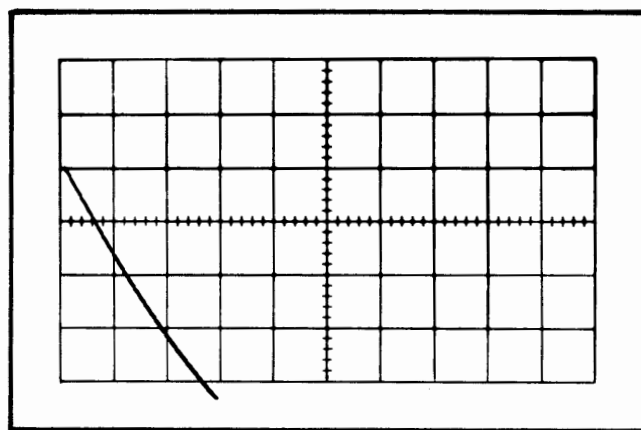

Fig. 5-39. Typical CRT display when checking DELAY-TIME MULTIPLIER incremental linearity.
c. Rotate the dial as necessary to position the start of the pulse to the beginning of the sweep (see Fig. 5-39).